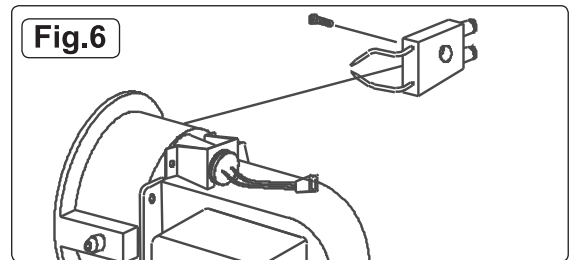

Fig.6
6.4 Spark Plug - Clean and re-gap every 600 hours of operation, or replace as needed. (Fig.6).